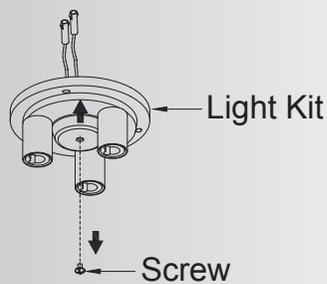

Fig. 21
**Step 1.** Remove the screw on the middle hole of light kit and save it for reuse on the step 5. (Fig. 21)